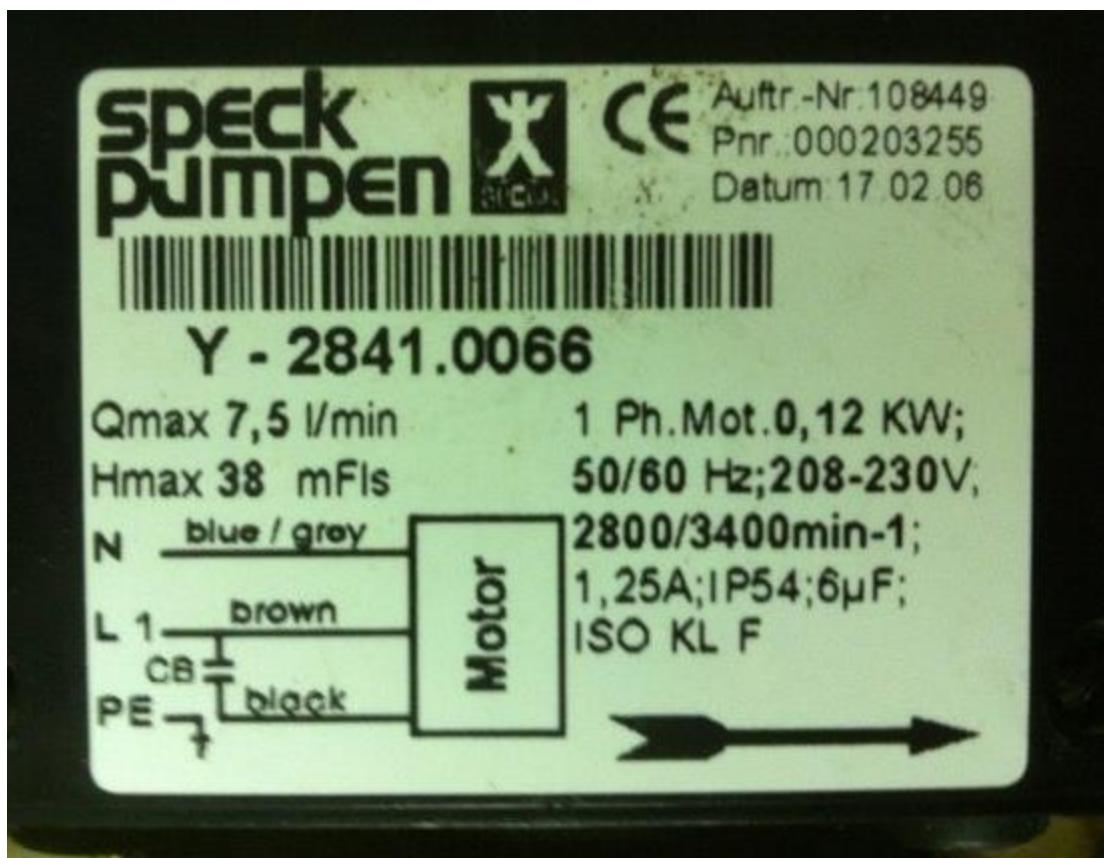

Figure 54 Water pump connection brick
1. Check connections on connection brick (Figure 54). If connection is good proceed to the next step.
3. The last thing could fail are motor windings. Open connection brick (Figure 54) to reveal contacts and measure resistance between windings. Resistance between the two edge contacts should be 47Ω , between the edge and center contact – 68Ω (21Ω). If resistances are different, replace the pump.